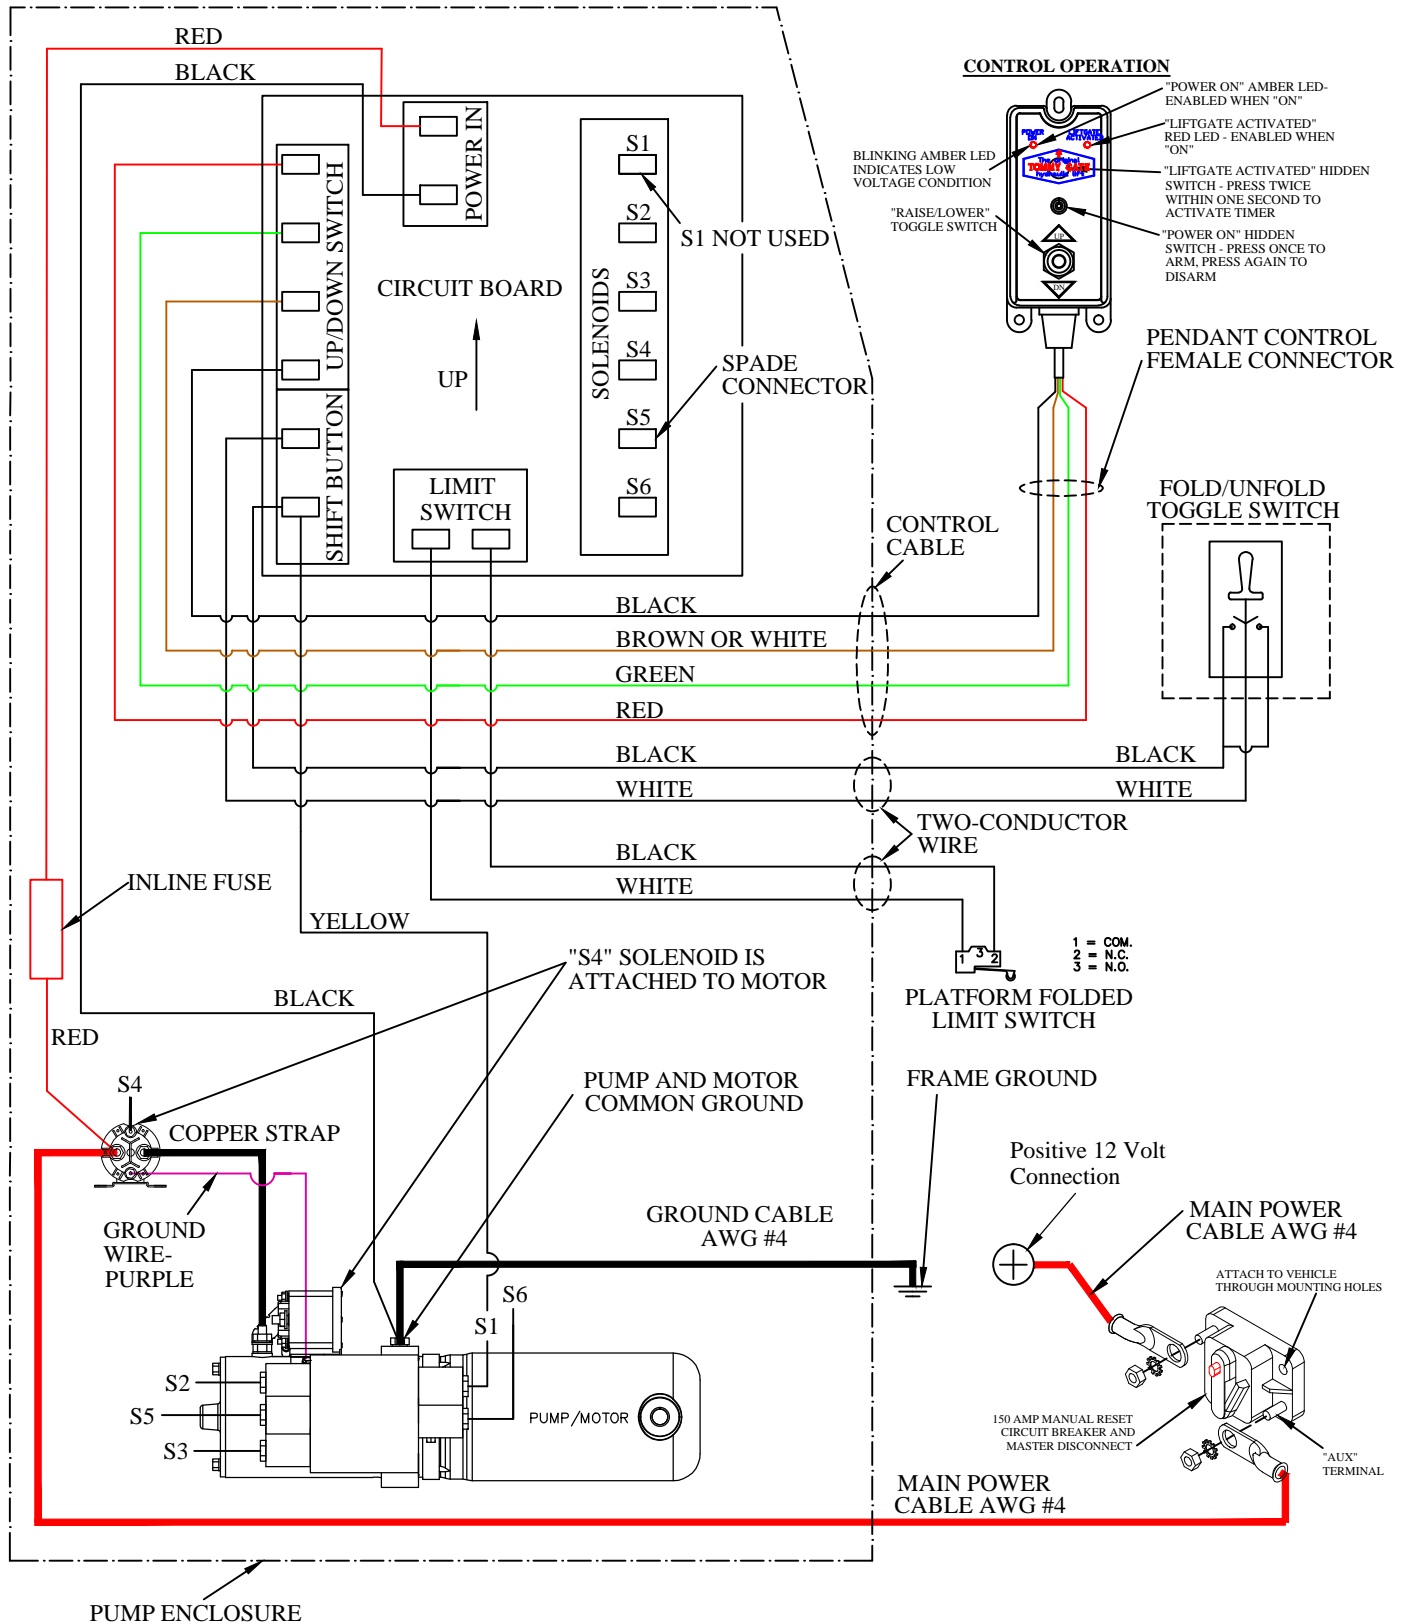

Figure 17: Wiring diagram.
Note: Follow the *Tommy Gate Recommended Electrical Wiring Guidelines* and wiring diagram (Figure 17) in the following steps.
- 12. **Connect** the circuit breaker (Figure 17). Use the supplied heat shrink tubing.